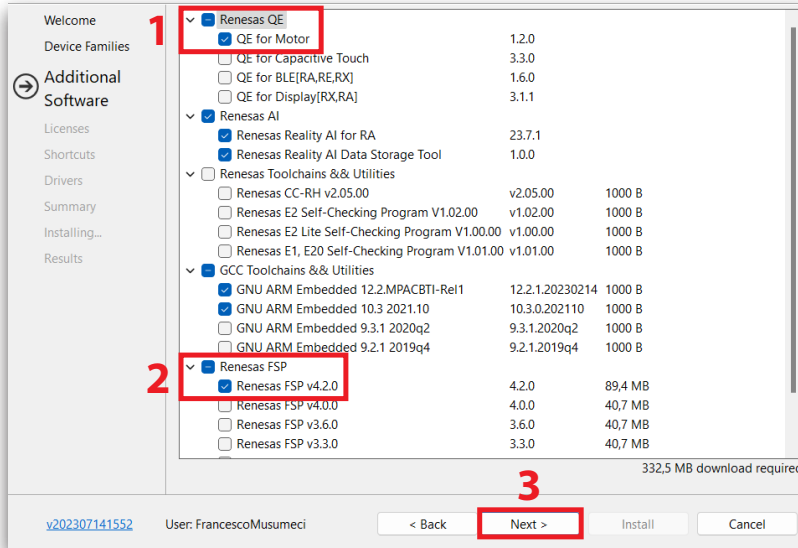

Figure 8: Additional Software setup section
5. Select **QE for Motor** and **Renesas FSP v4.2.0** on the Additional Software window (figure 8)